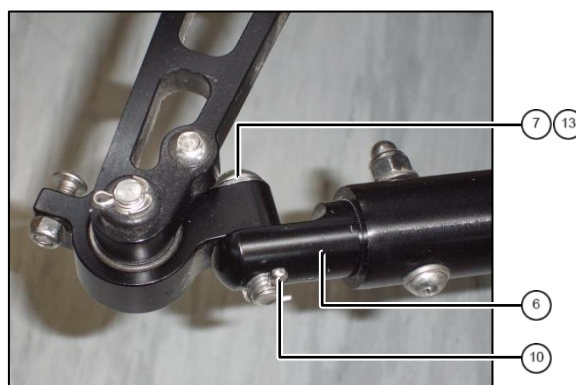

fig. 6: rear end
7. Stick bolt ⑦ with washer ⑬ through hinge block. Apply threadlock adhesive and turn bolt into rear linkage end ⑥ (see fig. 6). **Tightening torque 8Nm.**
8. Install splint ⑩.